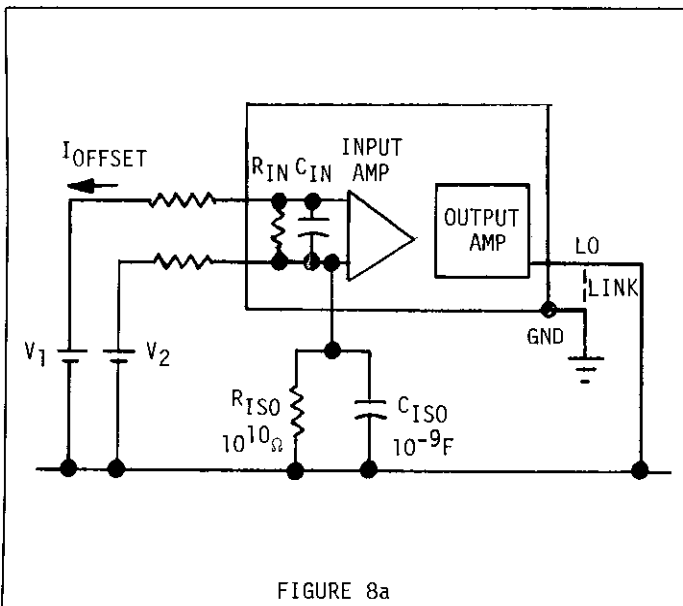
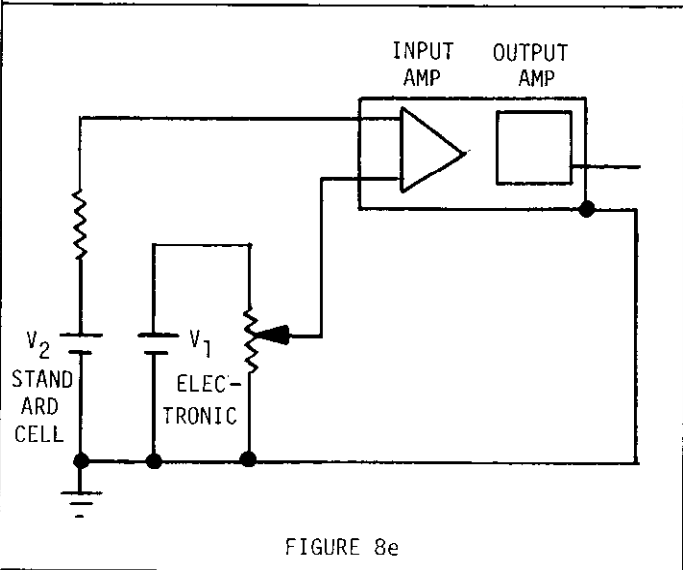

FIGURE 8a
FIGURE 8e
1. Inter-comparing standard cells. By far, the greatest concern of people doing this type of work is that the measurement does not present a load to the cells which significantly changes their voltage. Figure 8a shows the equivalent circuit for this measurement. Note that the common terminal of the two cells is connected to the output ground and earth ground on the Model 180. This is to prevent electrostatic pickup due to the high isolation impedance of the input. As seen in Figure 8a, the 180 common-mode and normal-mode impedances determine the current and charge which is required from the standard cells. The common-mode impedance appears across only one cell (V_2); when the 180 is first connected into the circuit, a charge of 10^{-9} coulombs from V_2 is needed to charge C_1 , and a current of 10^{-10} Amps flows through R_1 while the 180 is connected. The normal-mode impedance appears between the two cells, therefore the charge and current required by R_{1n} and C_{1n} is proportional to $(V_1 - V_2)$, which is on the order of mV or less. In the case of "primary" cells, two saturated standard cells are used which are in the same enclosure, and the $(V_1 - V_2)$ is on the order of $100\mu\text{V}$ or less. Thus the charge required from the cells when the 180 is connected is on the order of 5×10^{-10} coulombs, and the current drawn by the 180 after the settling time is 3×10^{-12} A due to the minimum $30\text{M}\Omega$ input resistance. The offset cur-
2. Other voltage difference measurements. At the Keithley standards facility, the Model 180 has been used for a number of voltage difference measurements in addition to the standard cell intercomparison mentioned above. These include comparisons between resistors and comparisons between electronic supplies, perhaps using ratio dividers to compare against a standard cell as shown in Figure 8e. Our standards people were particularly impressed with the combined speed and sensitivity on the mV range, and the trade-offs between speed and noise which could be made to get better resolution using the most sensitive range. The precautions mentioned above are to be used whenever standard cells are involved in the measurements. When electronic sources are involved, the grounding may be handled differently, since the electronic source usually has a ground back to power line of its own. See Figure 8e. The input lo (black clip lead) in general should be connected to the lowest impedance point with respect to the output low. However, our experience has been that "reversal" error due to interchanging the two input leads is at the worst about $0.1\mu\text{V}$ and typically is within the noise level on the most sensitive range. This "reversal" error, of course, depends upon the magnitude of the output impedances, as can be seen by looking at Figure 8a. There is usually no need to use the instrument in the autoranging